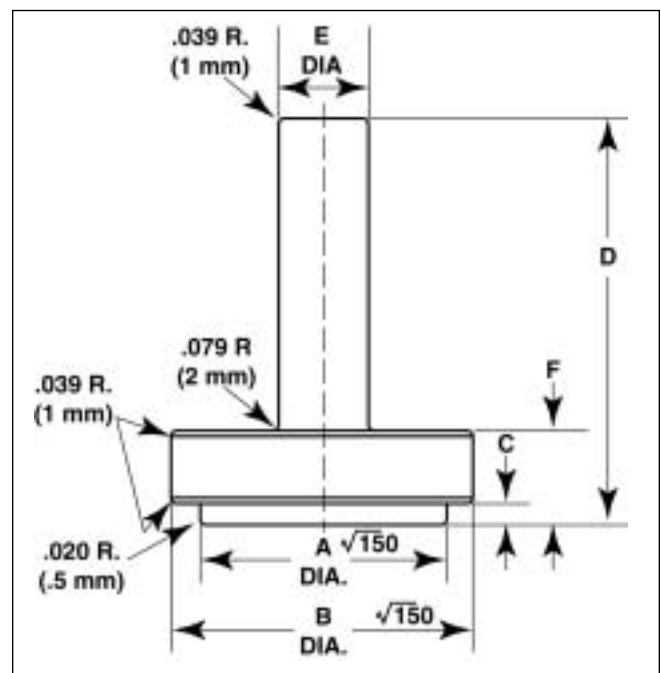
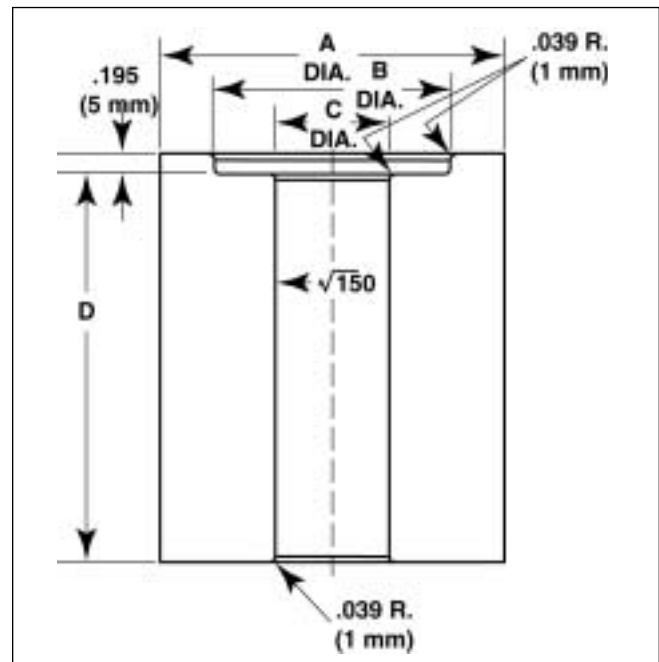

Figure 5 (not to scale)
Figure 6 (not to scale)
3. Place the pump body (1) in a press, with the mounting flange facing up.
5. Use a press, and the tool shown in Fig. 5 on page 11, slowly force the shaft seal into the pump body (1) until seated.
6. Assemble a retaining ring (68) on the shaft end. The sharp edge of the retaining ring must always be facing away from the part being retained.
7. Using the ball bearing installation tool shown in Fig. 6 on page 12, press the ball bearing (69) onto the shaft. Do not exceed the maximum pressing force guidelines listed as follows.
8. Install the remaining retaining ring (68).